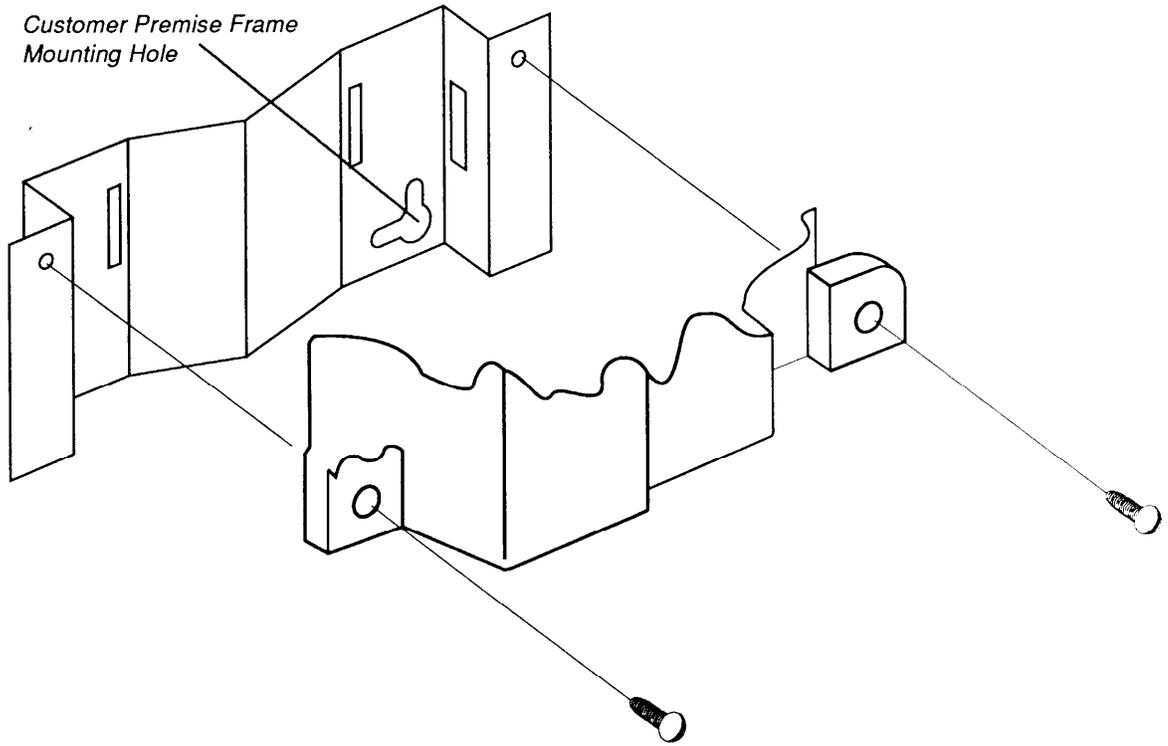

Fig. 4—Mounting the SNI-2125 to the Auxiliary Mount Brackets.
**3.09** The SNI-2125, with the Optional Auxiliary Mount Brackets installed, will mount in place of two 66 type connecting blocks. Refer to figure 4 for location of mounting holes.